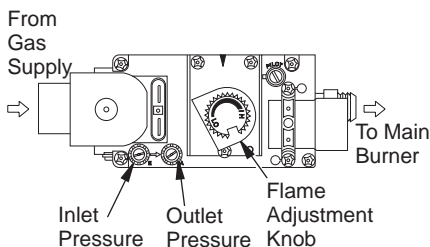

Figure 45 - Electronic Control Valve
The electronic system applies to the (V)DVF36TPNEA/TSTEA and (V)DVF36TPNPEA/TSTPEA models (see Figure 45).